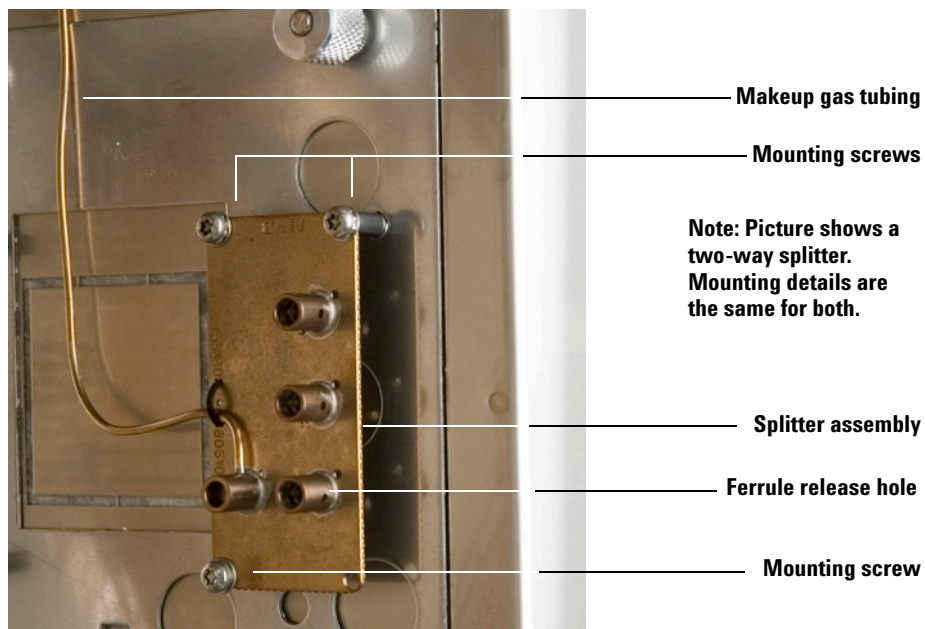

Figure 9 Installing the splitter assembly
- 7 Screw the splitter assembly to the bracket (three screws). See Figure 9.